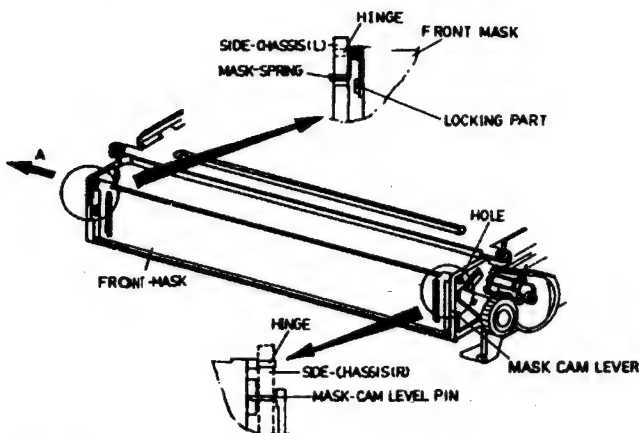

Fig.14
\* Upon reinstallation of the front mask slide, lever pin of the mask cam in the side-chassis(R) must be reinstalled. (Ref.Fig14).